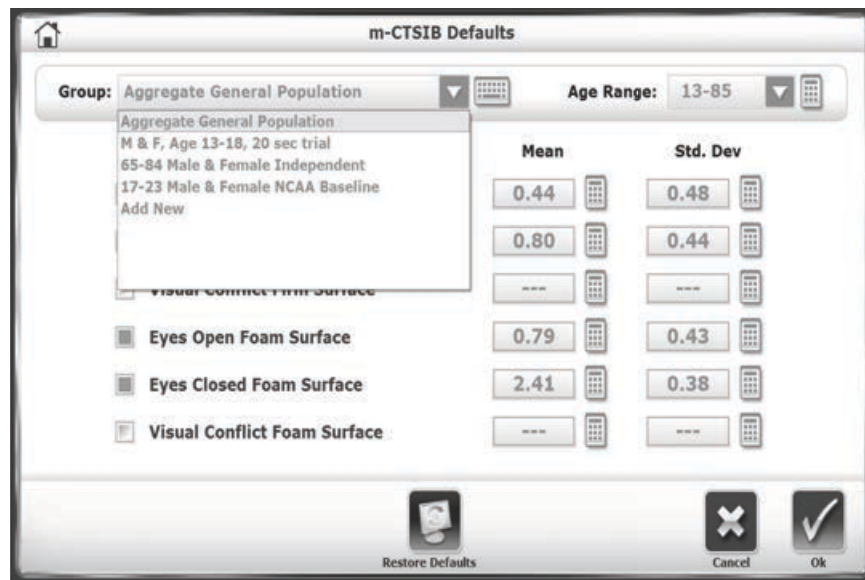

Figure 8.27. m-CTSIB Defaults screen.
- The user can touch <Print Report> on this screen to bring up the print options screen. The Progress Report print options screen can also be accessed at the Reports – Test Results screen (Figure 8.27) by touching <Print> on that screen.